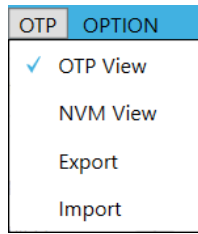

Figure 13: Select OTP View
- Select “OTP View” from the OTP drop-down menu to enter OTP and MTP view (see Figure 13 on page 13).